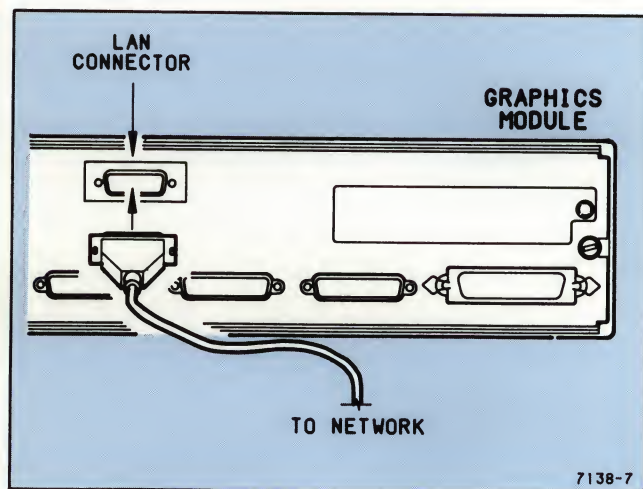

Figure 2-11. LAN Cable Connection.
5. If you will be using a local area network, attach the LAN cable to the LAN port (see Figure 2-11). Refer to "Local Area Network (LAN) Operator Information" in Section 4 for information on setting up and using the LAN.